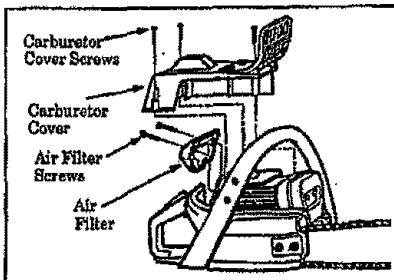

Figure 42
2. Remove the carburetor cover screws and carburetor cover. Figure 42 .
3. Remove the Air Filter screws. Figure 42 .
4. Pull out the air filter. Figure 42 .